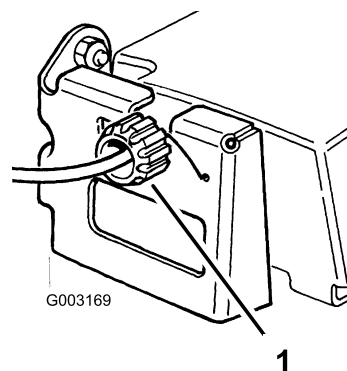

Figure 28
2. Rotate the control knob clockwise a half turn if the lawn mower does not self-propel. If the lawn mower creeps forward, rotate the knob a half turn counterclockwise to loosen the belt (Figure 28).